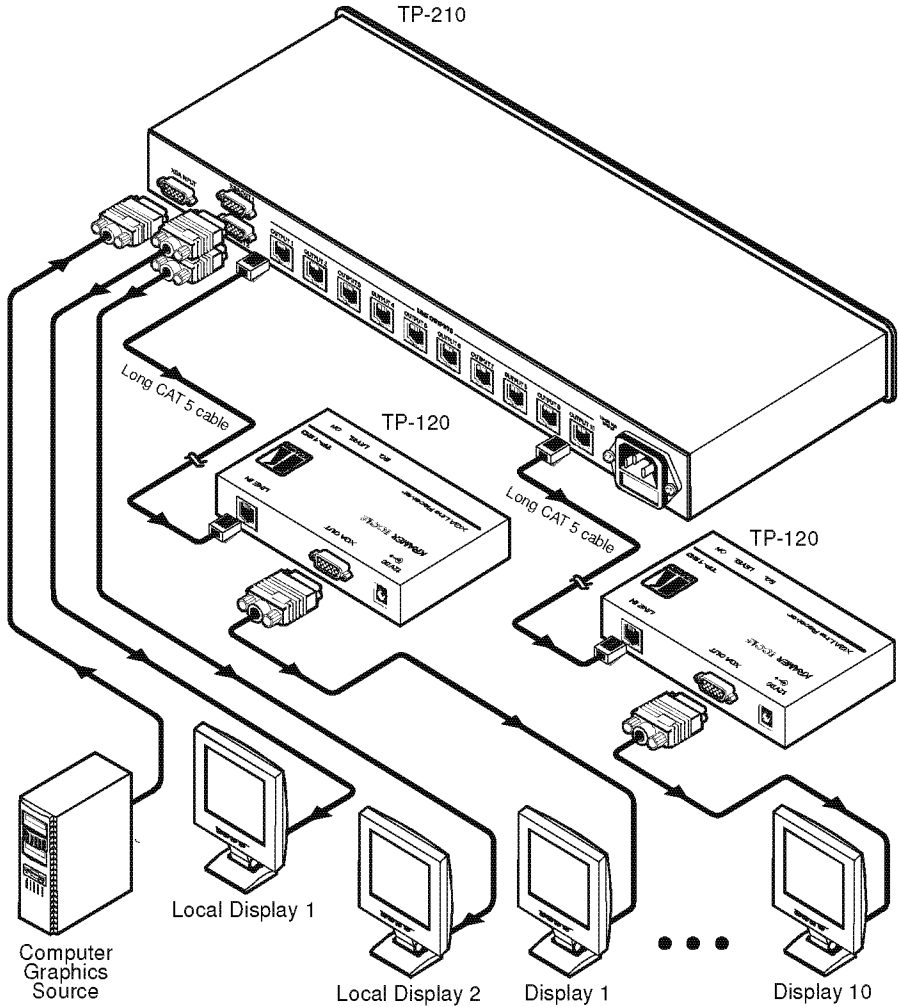

Figure 3: Connecting the TP-210 XGA Line Transmitter / DA
To connect the **TP-210**, as Figure 3 illustrates, do the following:
5. Connect the power cord³ (not shown in Figure 3).